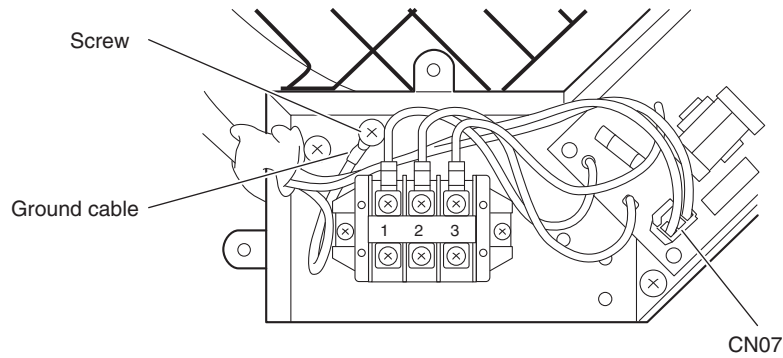

Fig.13
- (4) Disconnect the connector CN07 (DP 2P) in the power box. (Fig. 13)
Remove a screw and disconnect the ground cable. (Fig. 13)